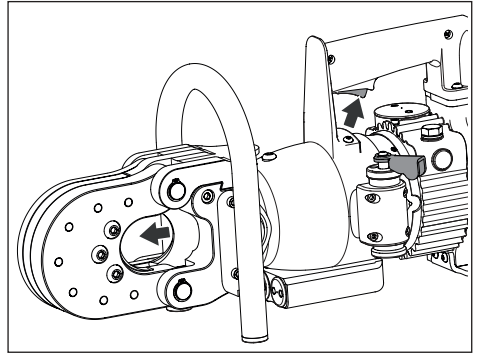

Figure 6, Advance Piston
- With the directional lever in position 1, press and hold the trigger to advance the piston and slide the moving blade forward. See Figure 6.